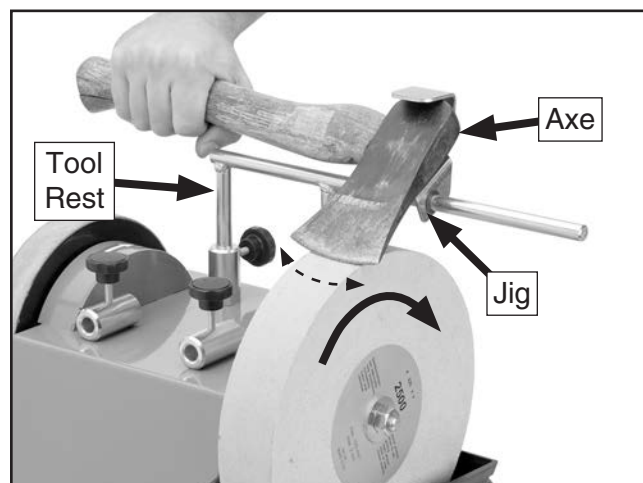

Figure 1. Example of Model T32798 in use.
3. Slide jig onto tool rest and insert axe into jig, as shown in **Figure 1**.
6. Use firm grip to return axe to surface of grinding wheel to sharpen axe against wheel rotation. Rock axe back and forth while grinding to sharpen entire cutting edge of axe (see **Figure 1**).